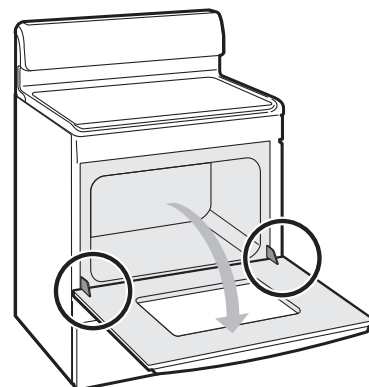

Figure 78: Oven hinge locations
1. Open oven door completely (Figure 78).
3. With both door hinge arms in place, open the oven door (Figure 78).